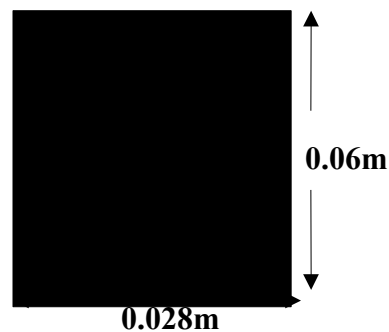

Fig. Q.1(b)
- (a) A wooden beam ABCD of length 18m is simply supported at the points A and C. The beam is loaded as shown in Figure Q.1(a).